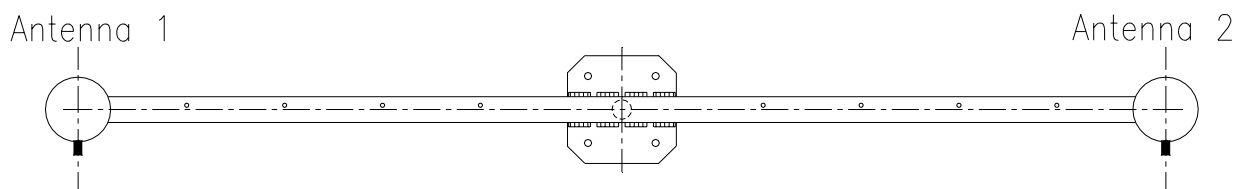
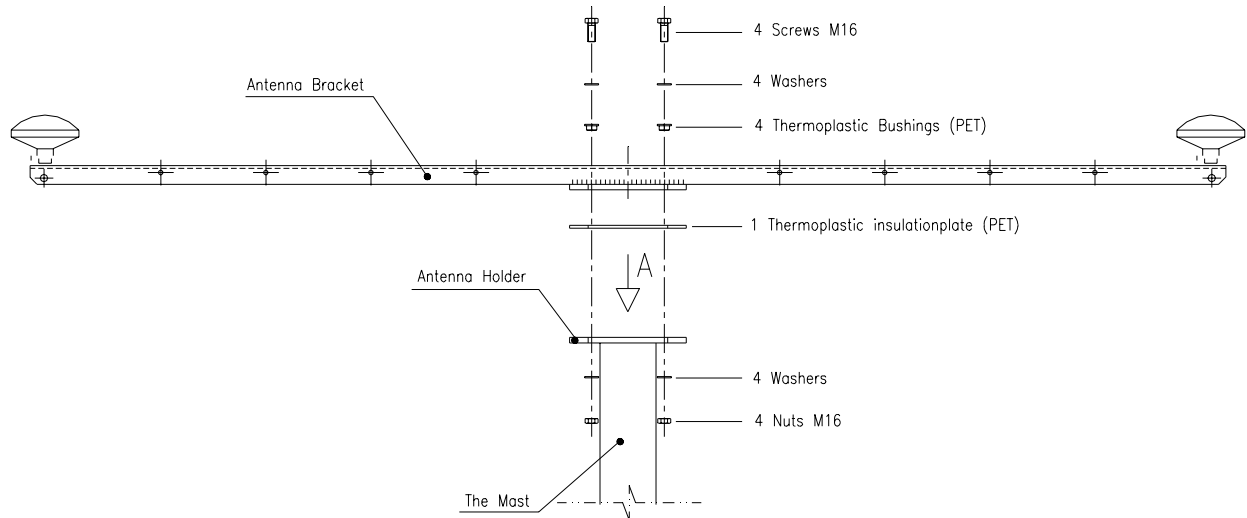
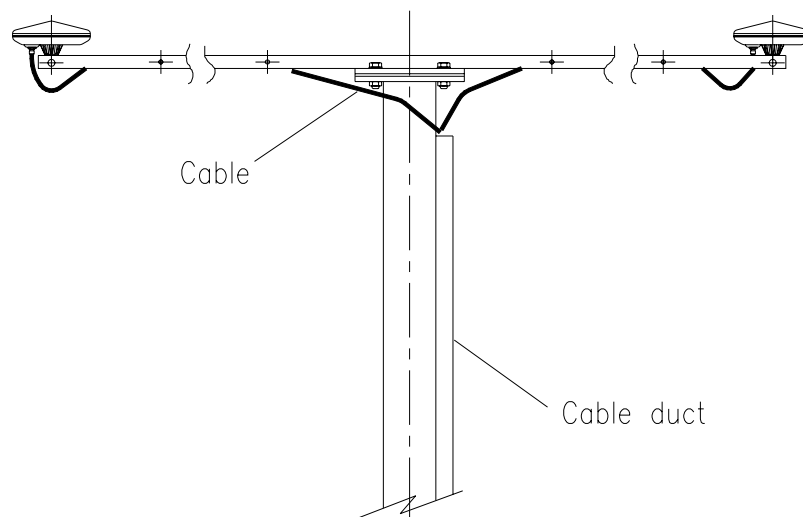

Figure 2 Top view of the Antenna Bracket
Figure 3 The different components for mounting of the Antenna Bracket
Figure 4 Side view of the GPS antenna installation
1. First the user has to make a holder for the Antenna Bracket (the holder is not part of the Seapath delivery) and have it properly fastened to the mast in the preferred orientation (horizontal or vertical). When the Antenna Bracket is mounted vertically, the drawings in Figure 2, Figure 3 and Figure 4 are not correct.
2. Bring the Antenna Bracket, the two GPS antennas and the antenna cables as close as possible to the location of the antenna holder. While both the GPS antennas and the Antenna Bracket are down on deck, mount the GPS antennas on the Bracket with both antennas oriented in the same direction. Depending on antenna type, labelling on the antenna housing (arrow or text) or connector location is used to determine direction. Figure 2 shows the antennas oriented with connectors pointing in the same direction. The antennas are not marked, and are interchangeable but called no. 1 or 2 for reference. The normal orientation of the Antenna Bracket is along ship with antenna no. 1 aft. It can, however, be mounted in any orientation, provided it is approximately horizontal.
3. Connect the antenna cables to both GPS antennas. The connection between the antenna and the antenna cable should be sealed against water penetration, preferably by using waterproof self-vulcanising tape. The GPS antenna cables are then strapped inside the Antenna Bracket as shown in Figure 4.